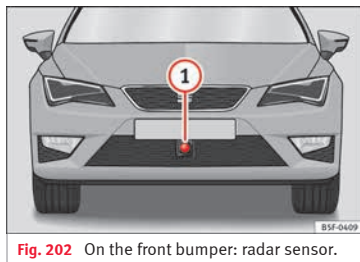

Fig. 202 On the front bumper: radar sensor.
A radar sensor is installed on the front bumper to determine the traffic situation » **Fig. 202** ①. This sensor can detect vehicles in front up to a distance of approximately 120 m.